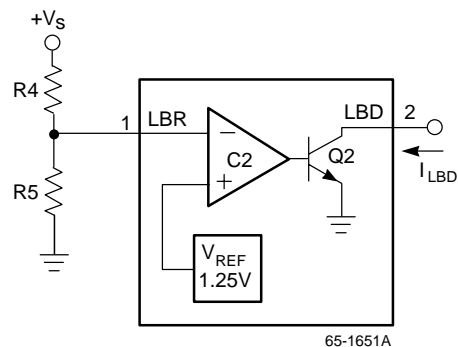

Figure 13. Low Battery Detector
An open collector signal transistor Q2 with comparator C2 provides the designer with a method of signaling a display or computer whenever the battery voltage falls below a programmed level (see Figure 13). This level is determined by the +1.25V reference level and by the selection of two external resistors according to the equation:
Draws excessive supply current on star-up.	Inductance value too low. Output frequency (FO) too low. Combination of low resistance inductor and high value filter capacitor — needs current limiting circuit (Figure 13).